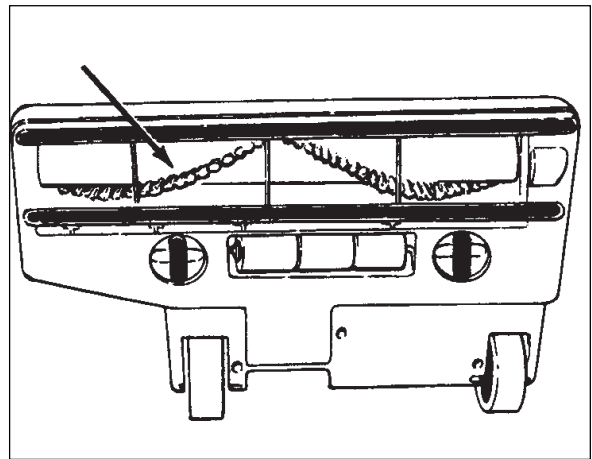

Figure 23
3. Lift the brush assembly up to remove it (see figure 23).